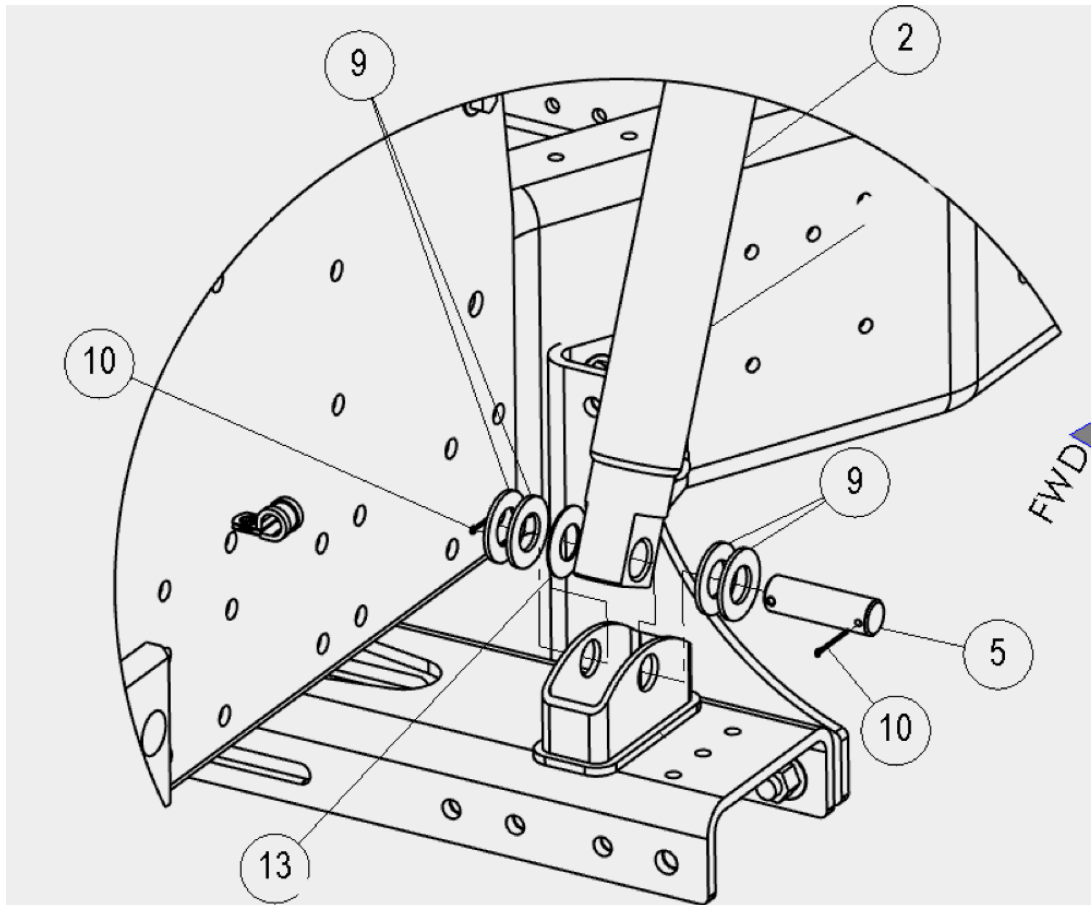

Figure 8.1
- 16) Install lower and upper cab tilt cylinder pins, washers, and cotter pins. The lower cylinder mount requires one Belleville washer and then regular washers as necessary to shim the gap and prevent cylinder clunking. See Figure 8.1